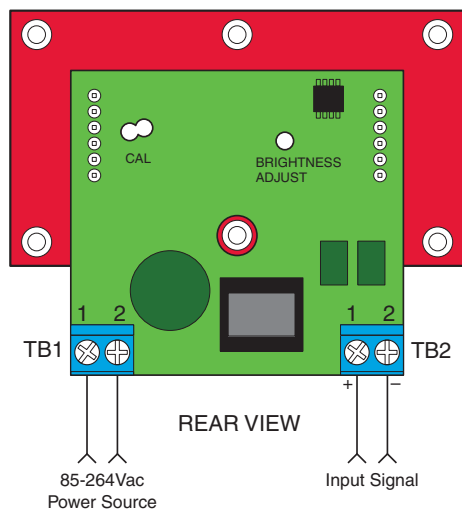

Figure 1. DMU-30DCV wiring diagram
3. Power Supply Polarity, Fusing, and Grounding: The operating-supply terminals (TB1-1 and TB1-2) on DMU-30DCV voltmeters are not polarity sensitive, that is, they have no "AC LO" or "AC HI" designations. These units do not include or require a connection to earth/chassis ground. Refer to Figure 1 for a typical wiring diagram.